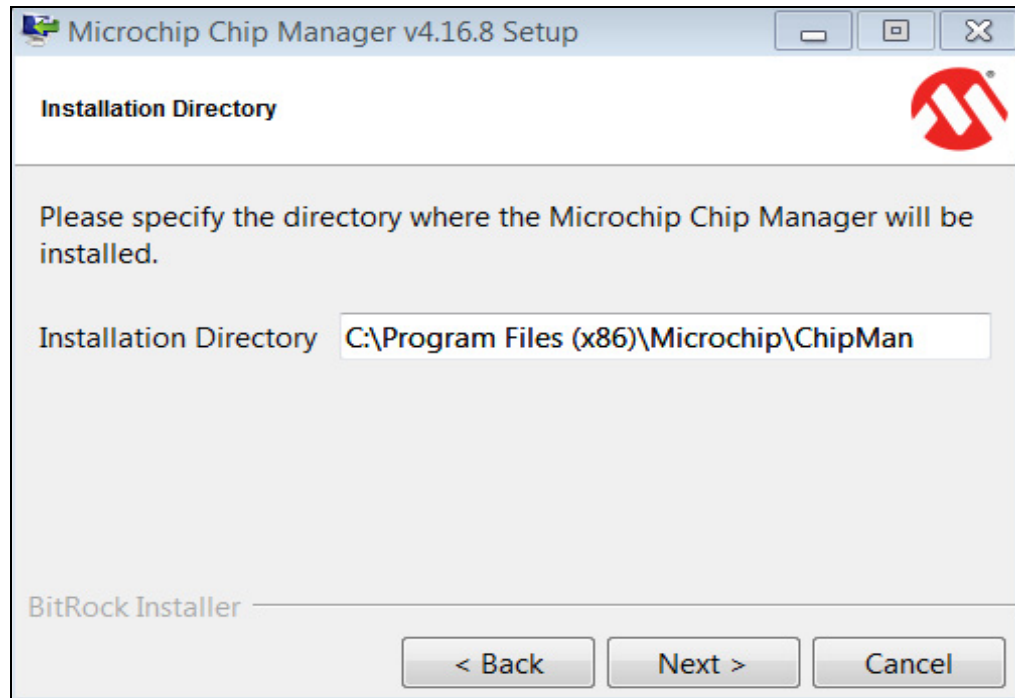

FIGURE 2-4: *Installation Directory Dialog.*
- On the Installation Directory dialog, browse for the desired location or click **Next** to install in the default location (see Figure 2-4).